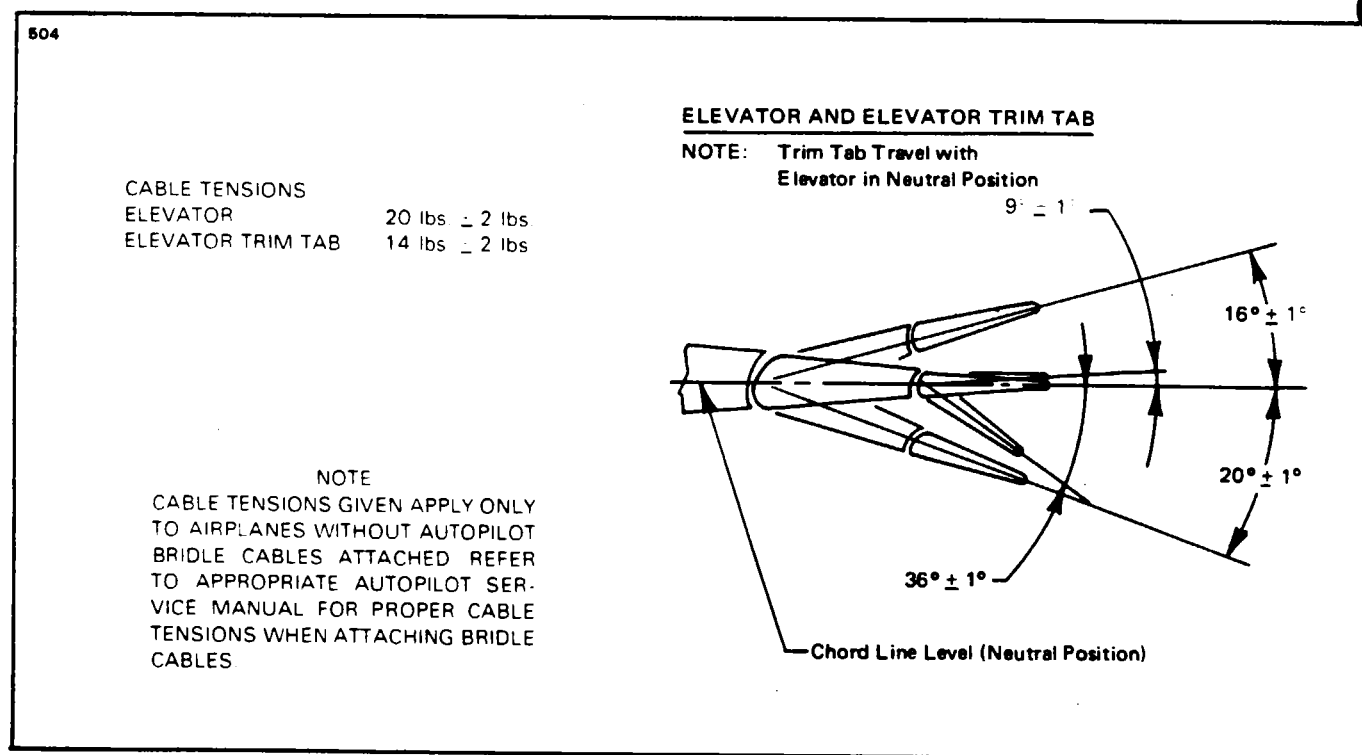
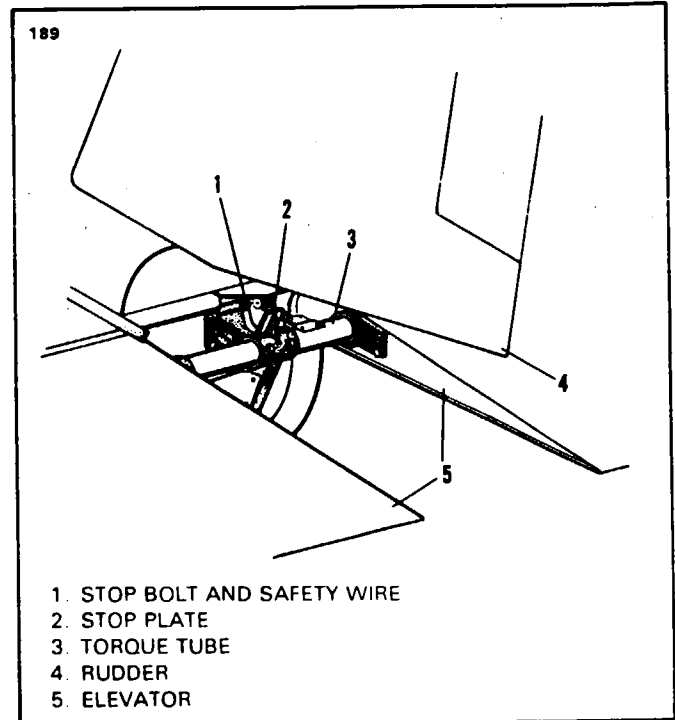

Figure 27-19. Elevator and Elevator Trim - Travels and Cable Tensions
Figure 27-21. Elevator Travel Stops
3. Set cable tension (per Figure 27-19), check rigging and adjustment.
4. Check cable tension per Figure 27-19 and rigging and adjustment.
4. With the elevator bellcrank neutral, adjust the turnbuckles at fuselage station 110.50 to obtain cable tension as given in Figure 27-19 and correct tension to ambient temperature per Chart 2702. Allow the control wheel to neutralize fore and aft. The neutral position of the control wheel is 8.75 inches as measured from the instrument panel along the underside of the control column to the wheel.
5. With the elevator neutral, place a bubble protractor on the inboard section of the elevator and establish neutral or zero on the protractor. Move the elevator up until the control arm contacts its stop. (Refer to Figure 27-21.) Check the up travel as given in Figure 27-19. Adjust the stop screw in or out to obtain proper adjustment. Move the elevator down and check and adjust by the same method. Tighten adjustment screw locknuts and torque to 20-40 inch pounds. The elevator control arm should contact its stops before the control wheel contacts its stops.
8. Set cable tension with the turnbuckles at station 291.00 per Figure 27-19 and check rigging and adjustment.
7. With the trim control completely installed, set the cable tension with turnbuckles per specifications given in Figure 27-19. Check to be certain the trim screw moves freely in both directions and check the rigging and adjustments per Rigging and Adjustment of Elevator Trim.
- C. Determine that the trim cable tension is set in accordance with specifications given in Figure 27-19.
3. Adjust the trim tab rods so that the tab is in specified down position per Figure 27-19 with the elevators neutral.
5. Rotate the trim control wheel in the cockpit to the full nose down position and check tab position per Figure 27-19 with the elevators neutral. Adjust the screw stops to obtain proper travel.